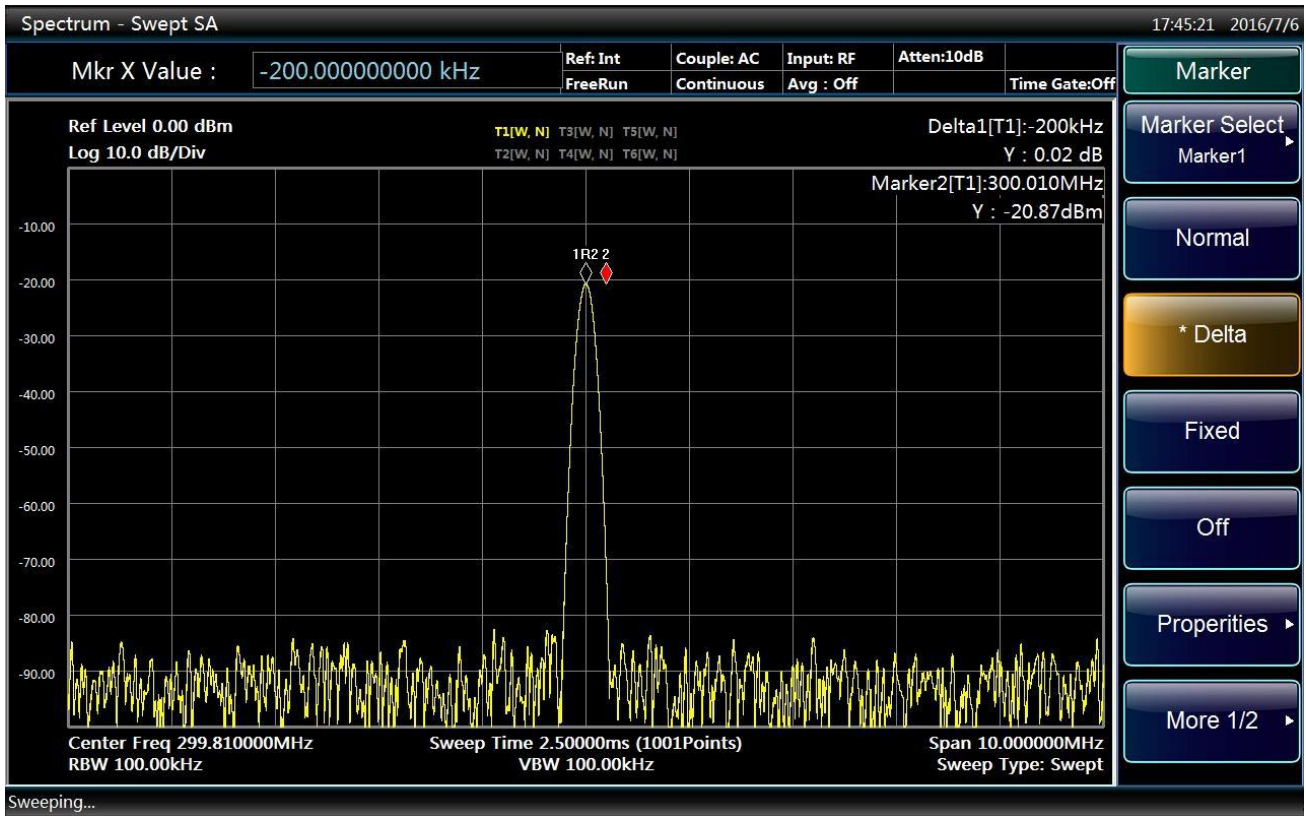

Fig. 4.38 Measurement of drift signal by signal tracking
**Step 6. Adjust the output frequency of the signal generator by 100kHz step:** the observable center frequency of the Series Signal Analyzer also changes by the stepped frequency of 100kHz, where the step signal is always in the center of the screen display. As shown in Fig. 4.38.